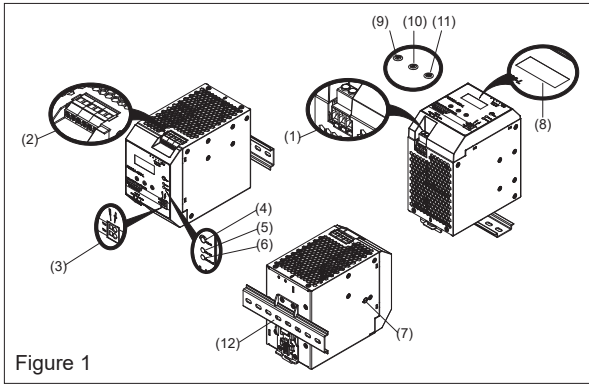

Figure 1
2. Device description (Fig. 1)
4.1. Input connection (Fig. 1, Fig. 6)
For AC input connections, use L, N and PE connections on the input terminal connector (see Fig. 1 (1)) to establish the 100-240 VAC connection. Fig. 6 shows the connection to the various network types.
4.2. Output Connection (Fig. 1 (2))
Use the "+" and "-" screw connections to establish the 24 VDC connection. The output provides 24 VDC. The output voltage can be adjusted from 24 to 28 VDC on the potentiometer. The green LED DC OK displays correct function of the output (Fig. 1 (5)). The device has a short circuit and overload protection and an overvoltage protection limited to 35 VDC.